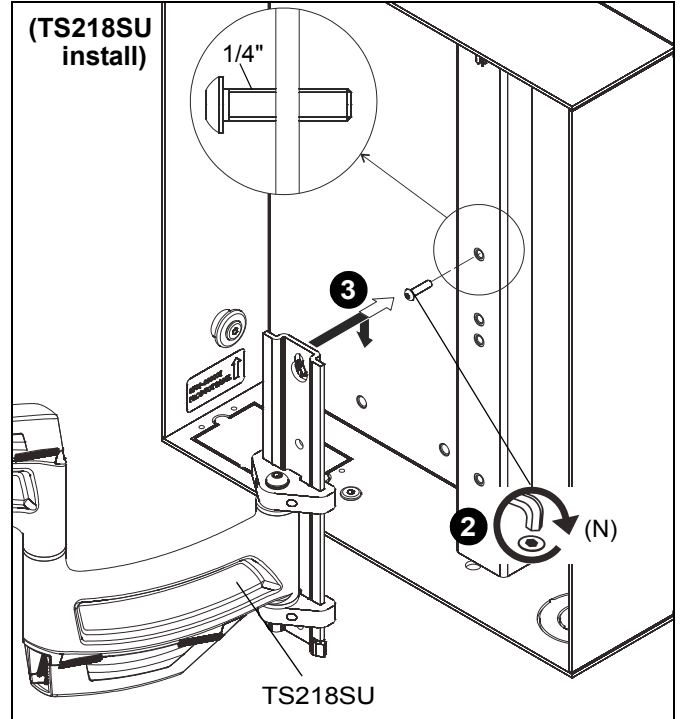

Figure 9
2. Partially install 1/4-20 x 1/2" button head cap screw (N) into corresponding hole on attach bracket (P), leaving screw hanging out 1/4" from bracket. (See Figure) or (See Figure 9)
3. Hang TS118/218SU mount onto screw by latching key-shaped hole over screw. (See Figure) or (See Figure 9)